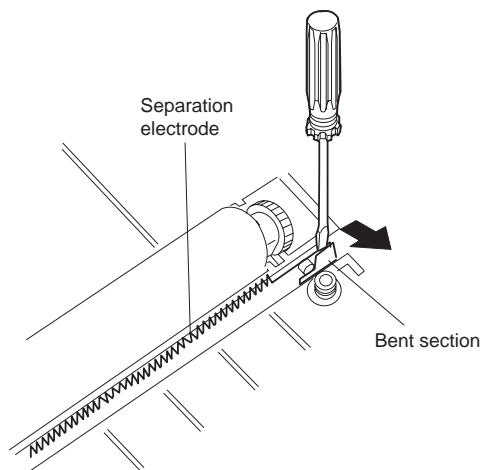

Fig. 39
- ② Pull out motor idle gear and remove drum idle gear.
- ③ Remove earth terminal fixing screw.
- ④ Slide the earth terminal in the direction of A and remove it from the main body frame.
- When pulling out the grounding section of separation electrode lastly, the bent section of electrode is caught by the lower frame. Therefore, use a screwdriver (-) to hold the electrode section of separation electrode so as not to be caught as follows (Fig. 39).